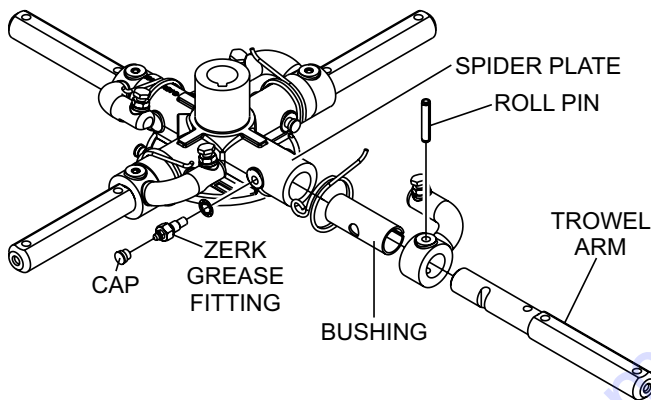

Figure 57. Trowel Arm Removal
1. Each trowel arm is held in place at the spider plate by a hex head bolt (zerk grease fitting) and a roll pin. Remove both the hex head bolt and the roll pin (Figure 57) from the spider plate.
4. Examine the trowel arm bushing insert (Figure 57), clean if necessary. Replace bushing if out of round or worn.